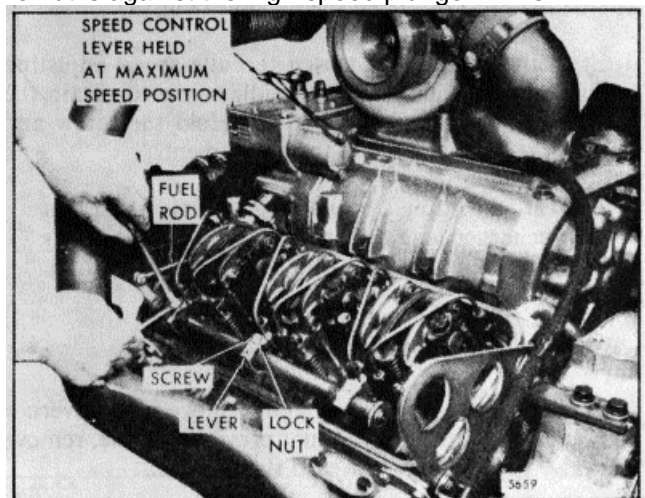

Fig. 3. - Position No. 1 Injector Rack Control Lever (One Screw and Locknut Assembly)
6. Move the speed control lever to the maximum speed position and hold it in that position with light finger pressure (Fig. 3). Tighten the adjusting screw of the No. 1L injector rack control lever until the injector rack clevis is observed to roll up or an increase in effort to turn the screwdriver is noted. Tighten the screw approximately 1/8 of a turn more and lock securely.